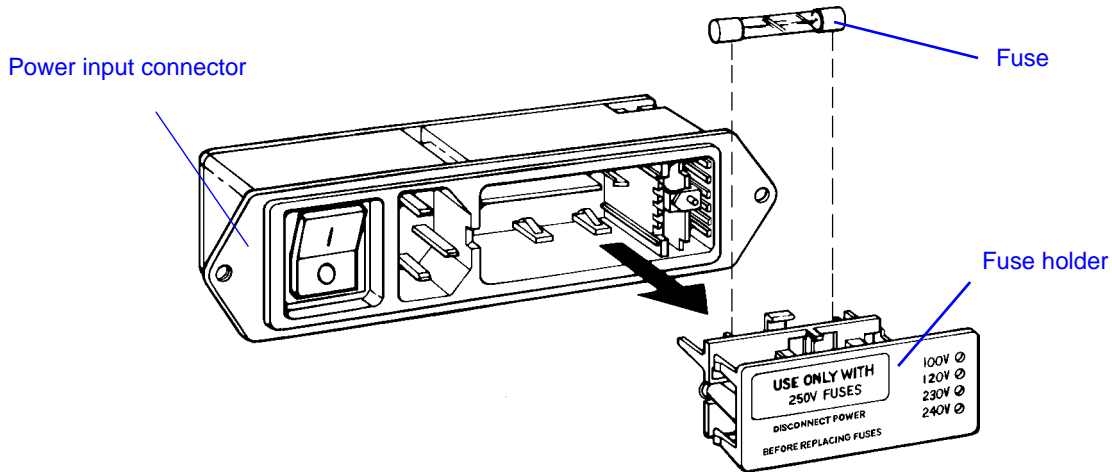

Figure 5-2. Removing the Fuse from the Fuse Holder
4. Remove the fuse as shown in Figure 5-2 on page 5-8.